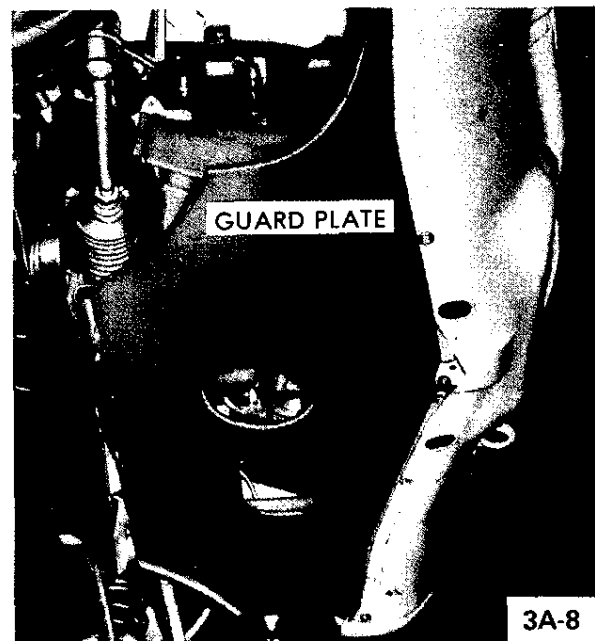

Figure 3A-8 Removing Guard Plate
7. Suspend engine with a suitable engine lifter, similar to the one shown in Figure 3A-9.